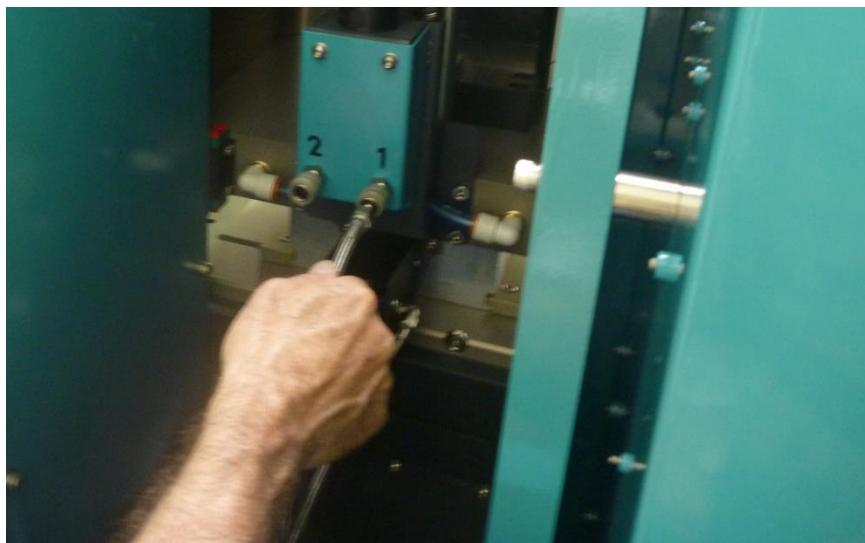

Fig. 4-37 Nozzle air connection
- Connect the nozzle air hose to the appropriate quick disconnect coupling as shown in Fig. 4-37. For Melt-man units connected to receptacle "1" [see chapter 3.3.2] plug the air hose into the coupling labeled "1". Correspondingly connect the air hose into coupling "2" for Melt-man units connected to receptacle "2".